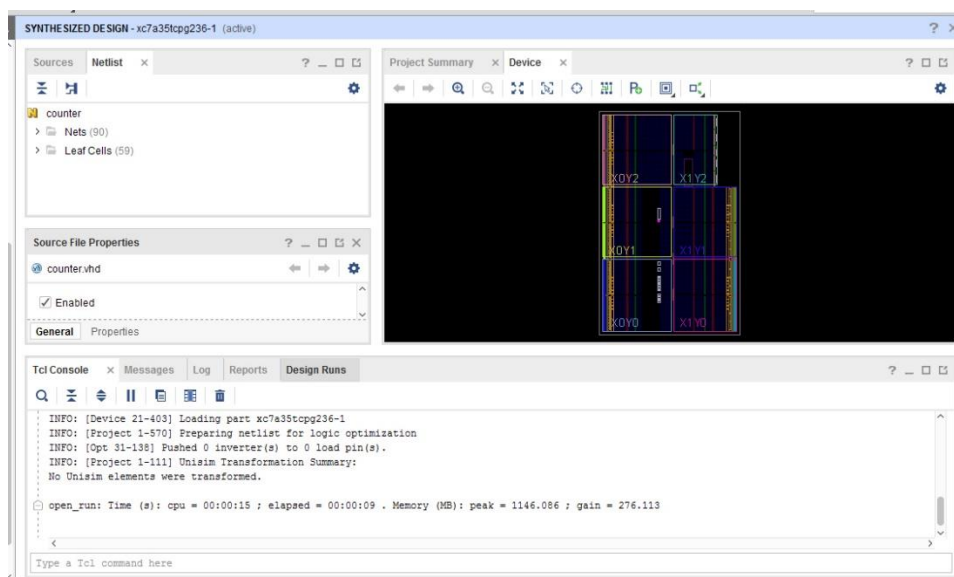

Figure 19
6. A **Device** window opens in the new **Synthesized Design** window, showing the FPGA resources distribution (Figure 19)(if the **Device** window is not visible, check for the **Device** tab in the new **Synthesized Design** window). However, no resources are yet occupied by our design. This happens only after the **Implementation** step